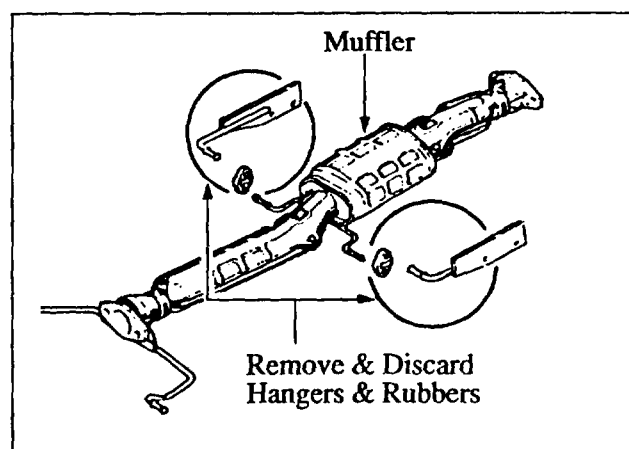

Figure 2: View of Muffler Hangers & Rubbers
8. Remove and discard the muffler hangers and rubbers. **Figure 2.**